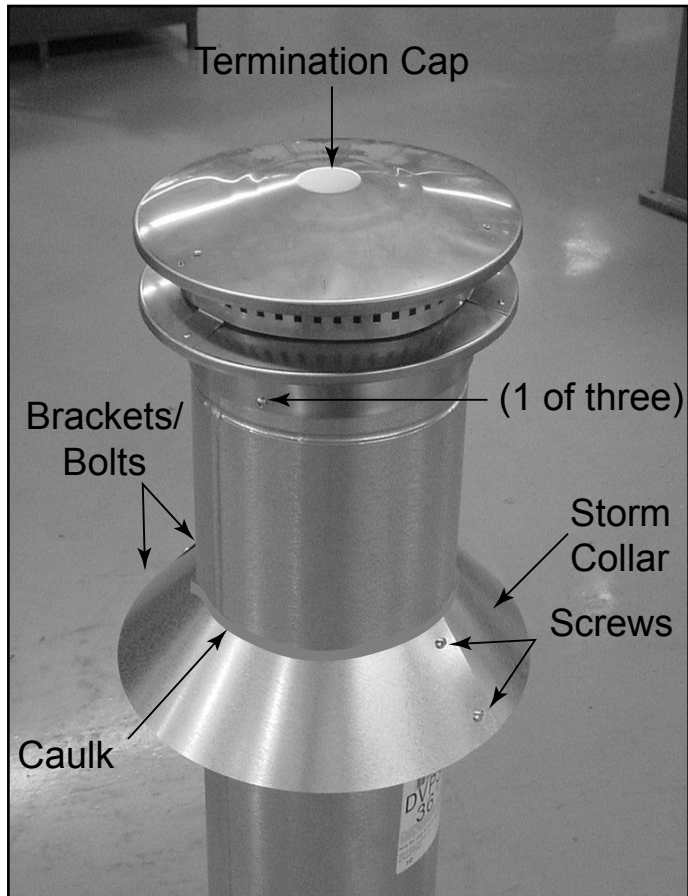

Figure 10.10
- Secure the cap by driving three self-tapping screws (supplied) through the pilot holes in the outer collar of the cap into the outer flue of the pipe (see Figure 10.10).